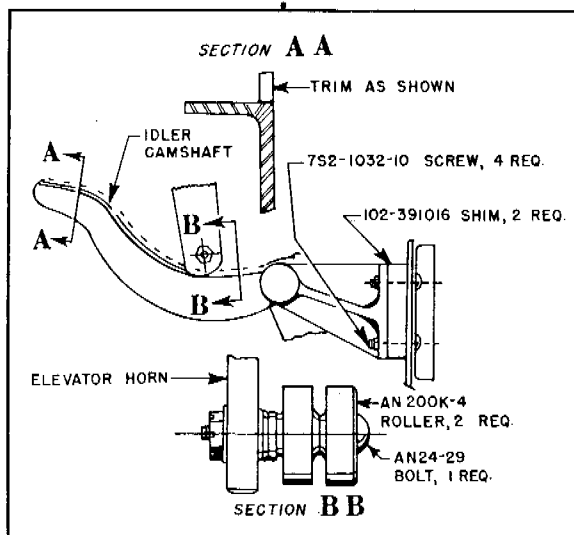

Figure 1 - View Showing Roller Added and Flange To Be Removed From Idler Camshaft
(1) Remove the four Dzus fastened access doors on the tail section of the fuselage under the horizontal stabilizer.
(2) Working through the rear access door on the left side, remove the spring and actuating cable from the camshaft assembly.
(3) Remove from the airplane, the camshaft assembly which is attached to the fuselage frame by two mounting brackets.
(4) File or grind the upper vertical flange off the camshaft. (See figure 1, detail AA.)
(5) Remove the bolt which secures the ball-bearing roller to the horn assembly. (This roller rides on camshaft.) Add one new roller, part No. AN200K-4, to the present assembly and secure with one new bolt, part No. AN24-29, using the same nut and washer removed. (See figure 1, detail BB.)
(6) Reinstall the two supporting brackets, inserting one each new block, part No. 102-341016, to act as a shim between each bracket and the fuselage frame. Secure with four new screws, part No. 7S2-1032-18, using the same nuts previously removed. (See figure 1.)